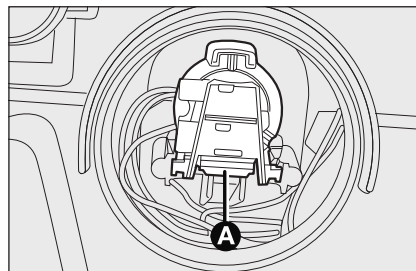

fig. 24
- ☐ press the fastener **A**-fig. 24 and extract the bulb holder;